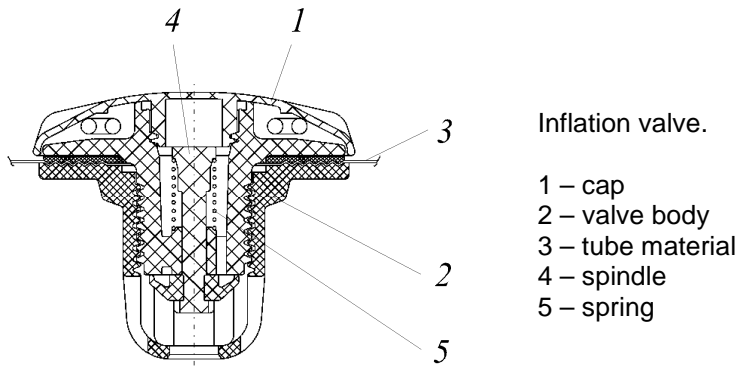

Fig.4
The buoyancy tube of the boat has of five independent airtight compartments. Each compartment has an inflation valve. You can see the valve design on the Fig.4.
Before inflation it's necessary to set all valves in operating condition. For it open the valve cap (1) (Fig.4), press spindle (4) (Fig.4) with your finger and rotate it clockwise until the spindle will be fixed in upper position.
Step 5. Fill the two rear compartments to a nominal pressure of 0.2 bar (2.9 psi). Check the air pressure in the front compartment. The pressure should be 0.2 bar (2.9 psi). Inflate / deflate if needed. After completing the filling, close the Inflation valves with caps (1) (Fig. 4). To deflate tube compartment, open the valve cap, press down on spindle (4) (Fig. 4) with your finger and turn it counterclockwise until the spindle locks in the down position.